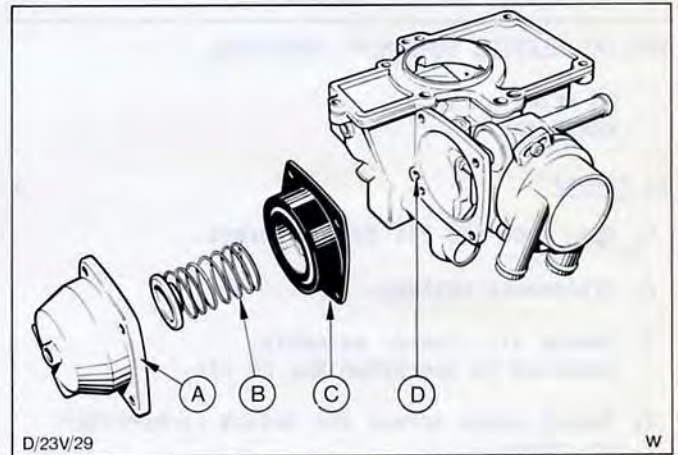

Fig.67. Control vacuum diaphragm assembly.
7. Connect control diaphragm to operating linkage, install circlip and refit diaphragm assembly, Fig.67. Secure four cross head screws.
NOTE: Ensure that vacuum hole in diaphragm lines up with supply galleries in both carburettor body 'D' in Fig.67, and housing. Also when fitting, hold air valve fully open when tightening screws. This will ensure that diaphragm is not trapped.